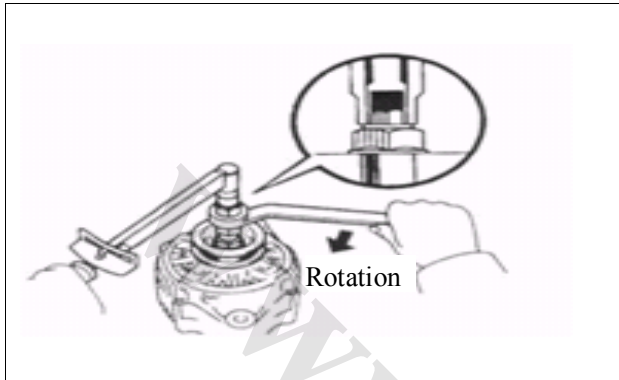

Figure 413
Use a torque wrench to hold special tool (A) and tighten special tool (B) in a clockwise direction to the required torque (see Fig. 413).